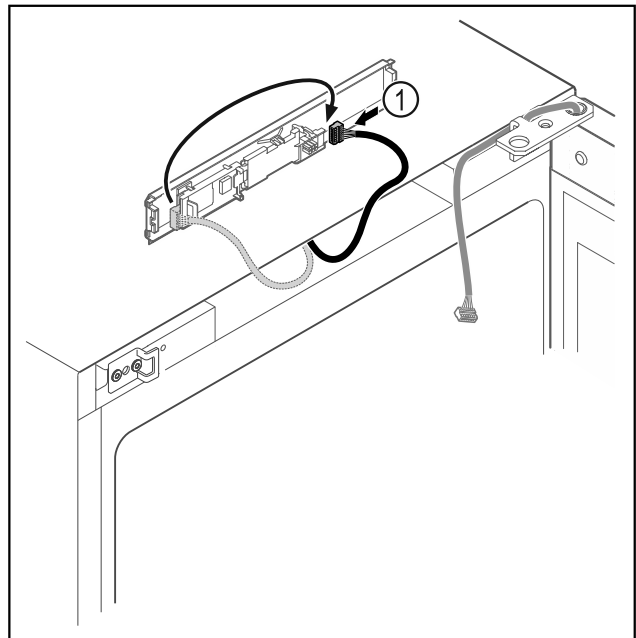

Fig. 8
► Connect the plug Fig. 8 (1) to the circuit board.